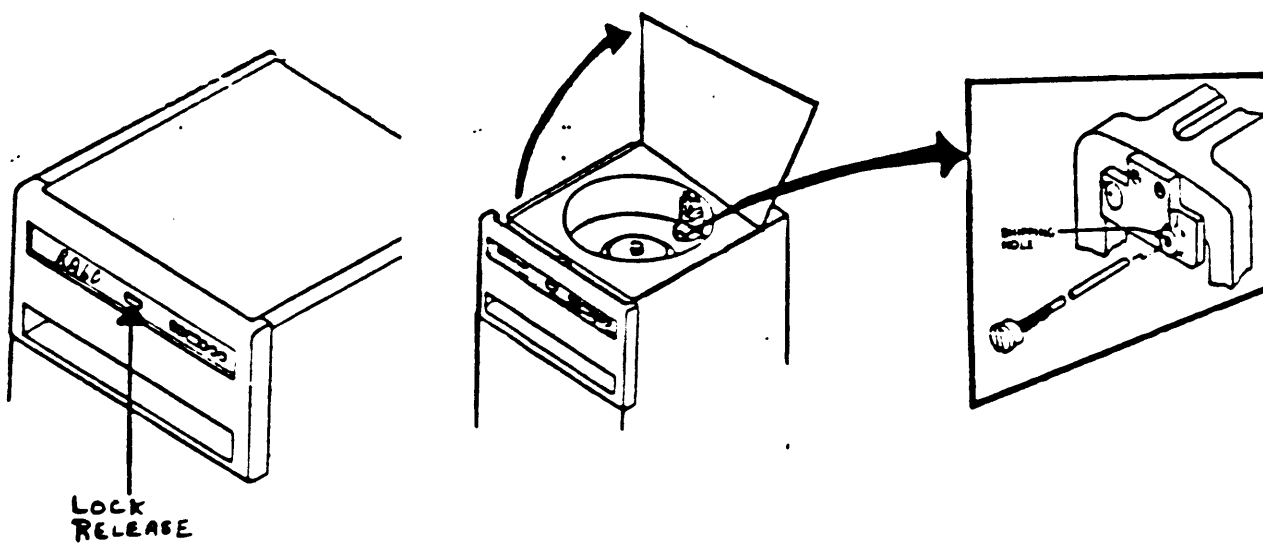

Figure 2-33. Unlock the Positioner in the RA60 (1 of 2).
Step 25: Unlock the positioner in the RA60 disk drive as shown in Figure 2-33.